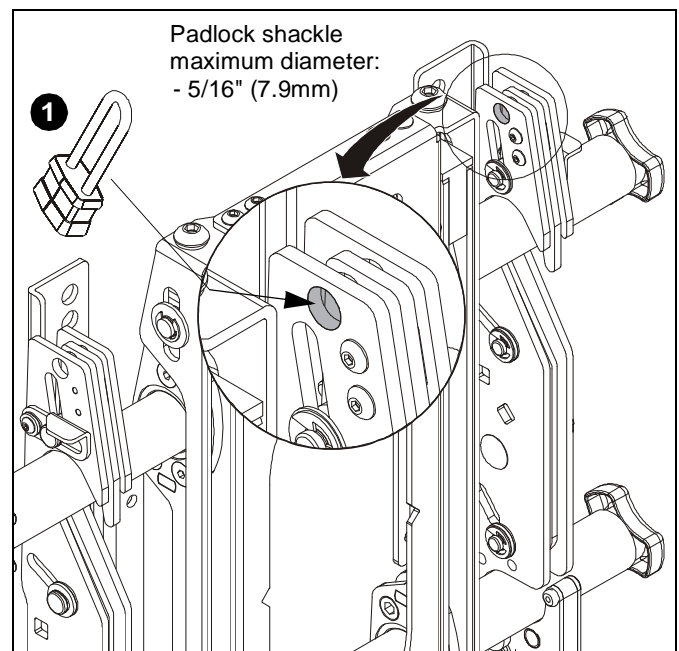

**Figure 12**
1. Lock screen interface brackets onto mount rails using one 3/8-16 x 3/4" set screw (U) on each interface bracket. (See Figure 12)